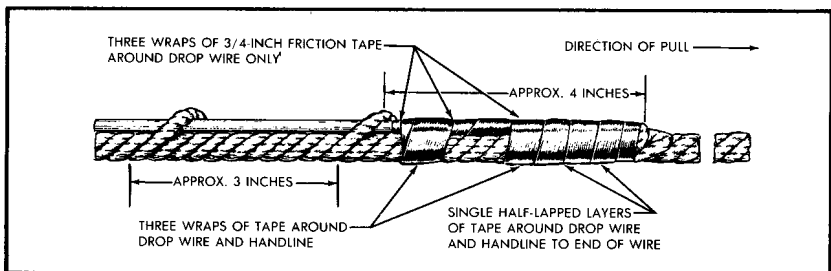

FIGURE 2. Alternate Tie to Prevent Snagging
i. Standing on the ground, **Employee No. 2** now throws the free end of the handline over the power wires or power cables. Tie this end of the handline to the end of the drop wire by means of a square knot, serving the end of the wire around itself without sharp bends. If the handline has been placed over a drive hook or other support on which the square knot would snag, fasten the handline to the wire as shown in Figure 2.